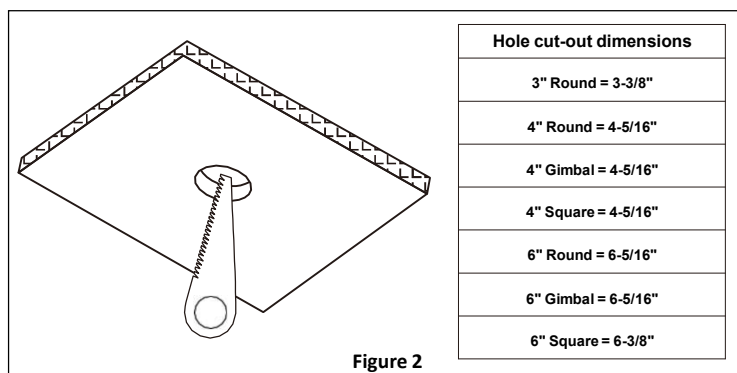

Figure 2
- Place the included cut-out size template over the desired location and trace the hole onto the ceiling with a pen or pencil (not included). **See Figure 2.**